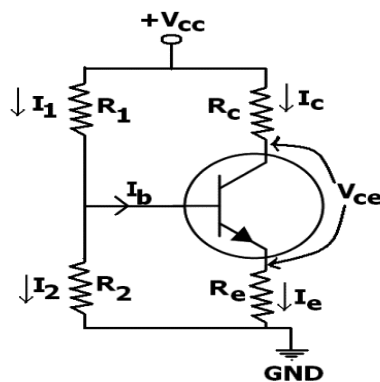

Figure 1: Voltage divider biasing
1. Connect the electrical circuit as in Figure 1.